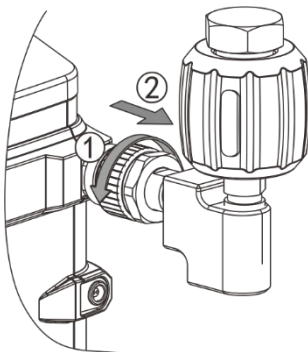

Figure 7 Remove the single port
- 1) Remove the single port, as shown in Figure 7.